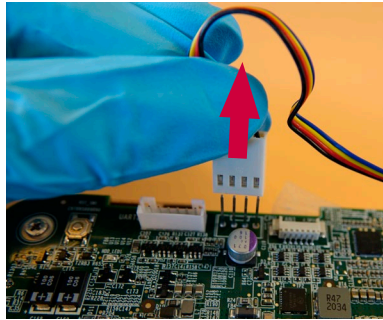

Figure 28 Disconnect the fan cable
a) Disconnect the fan connector (Figure 28)
g) Connect the fan cable (see Figure 12 and Figure 28)